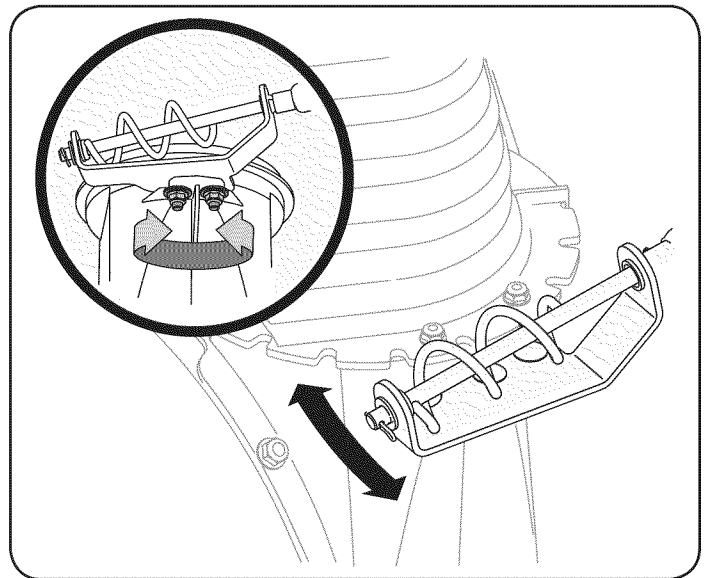

Figure 26
5. Loosen the two nuts which secure the chute bracket and reposition it slightly. See Figure 26.